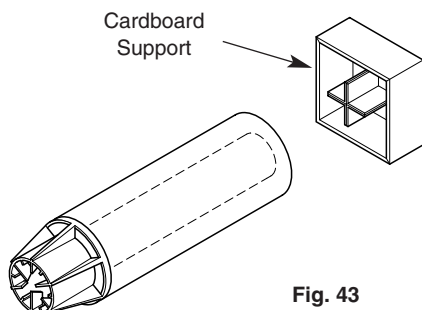

Fig. 43
7. The cardboard support supplied in the flue pack should be installed onto the flue tubes of the flue terminal assembly to ensure the flue is supported during cutting (Fig. 43 & 44).